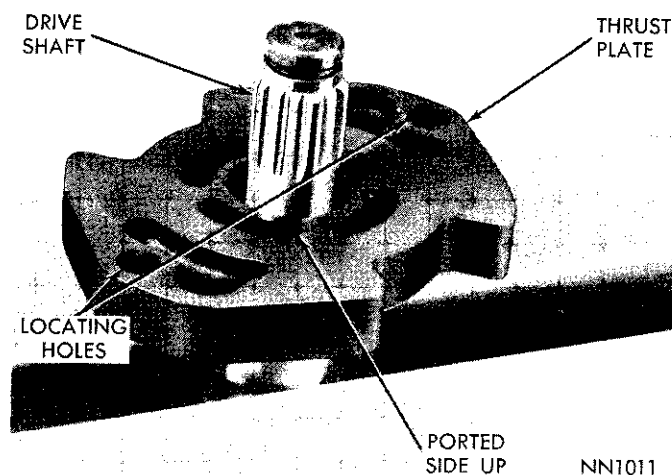

Fig. 11—Installing Thrust Plate
(4) Lubricate large pump body to reservoir "O" ring and install on pump body.
(5) With drive shaft clamped splined end up in soft jawed vise, install thrust plate on drive shaft (smooth, ported side up) (Fig. 11).